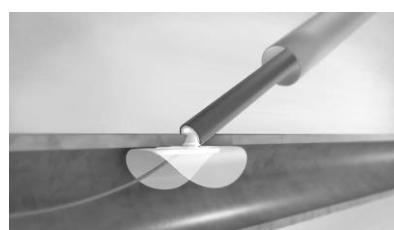

Figure 13. Tamponade position, implant positioned juxtaposition to arteriotomy.
- Continue to withdraw the device a further 1.5 graduations ($= 3.5$ graduations total). At this point, gentle tactile resistance should be felt as a result of the implant anchoring itself against the inside lumen of the artery wall. This is the tamponade position, and the implant is now controlling the bleeding from the arteriotomy. Figure 13.